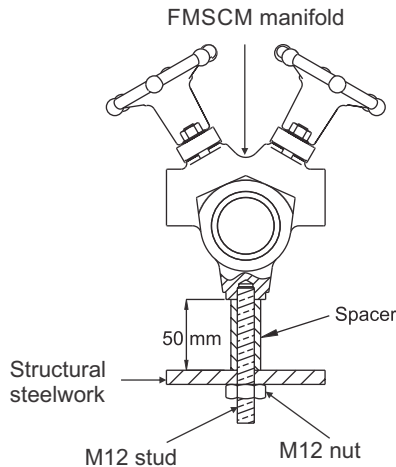

Figure 3: Installation view of Forbes Marshall steam and condensate manifold
4. **General information: The Forbes Marshall Steam and Condensate Manifold can be** installed in either direction most preferably in vertical position. Ensure that there is sufficient access to the handwheel to allow proper operation. The back is provided with M12 threaded connections for attaching to a supporting structure. For ease of installation it is recommended that spacers be fitted to give the manifold a stand-off of at least 50 mm as shown in fig. 3.